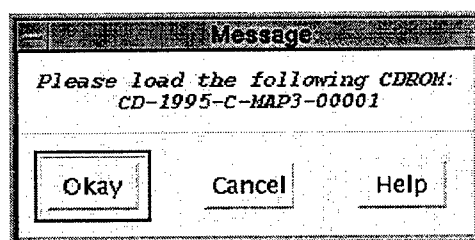

Fig. 81 — MMC prompt to load CAC CD
5. MMC will prompt the user to load the appropriate CAC CD (Fig. 81) into the CD changer caddy (Section 4.1).